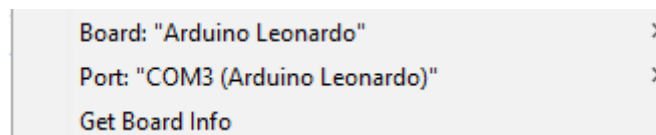

Figure 8.2: Arduino Settings
14. Your **Tools** settings should be similar as shown in Figure 8.2.